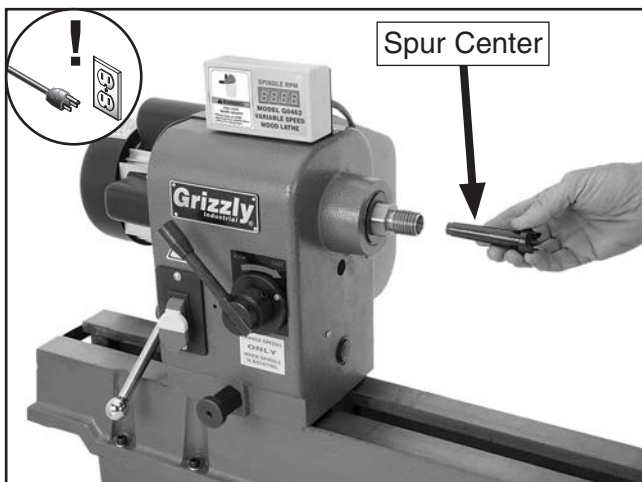

Figure 22. Inserting spur center into spindle.
5. Insert the tapered end of the center into the spindle, then push it in with a quick, firm motion (see **Figure 22**).